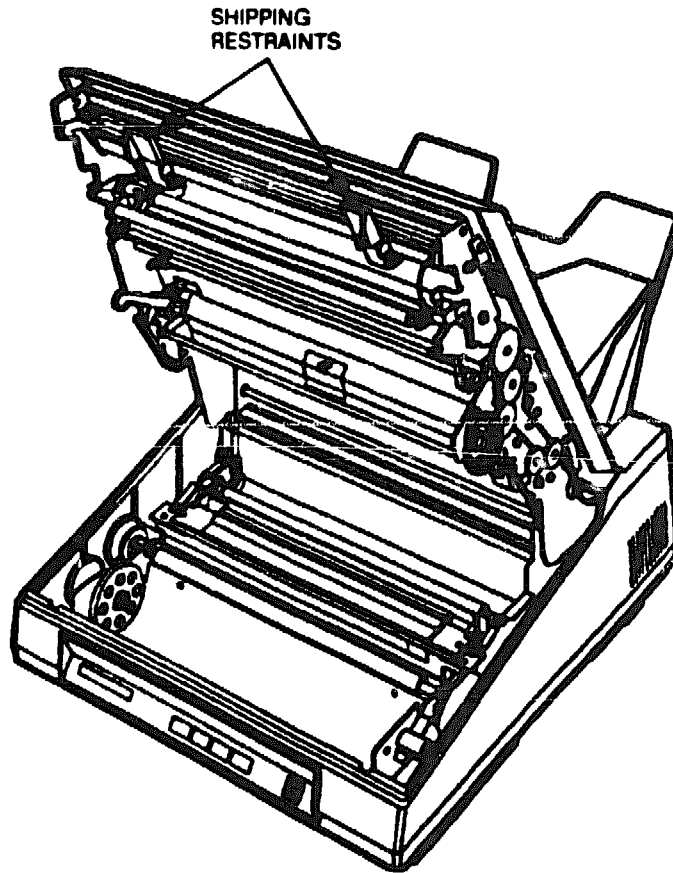

Figure 2-1 Shipping Restraints
- Check that the shipping restraints inside the printer are in the up position during printer operation (see Figure 2-1).